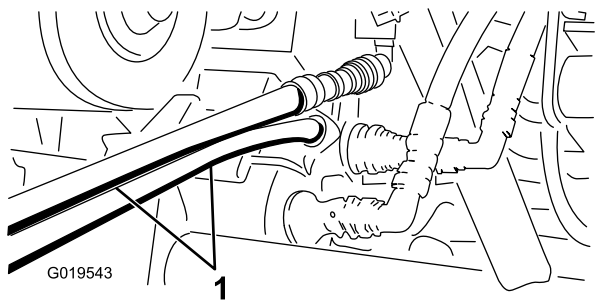

Figure 68
5. On the other machine, connect the 2 hoses to the coupler still in the coupler bracket (Figure 68).